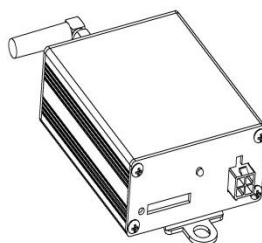

Fig.8
### 3.7 GSM remote controller (Optional device, see Fig.8)
**Please make sure that there are not any interference objects in the gap between the bottom surface of the main heater and the installation surface of the vehicle (Fig. 8-F).**